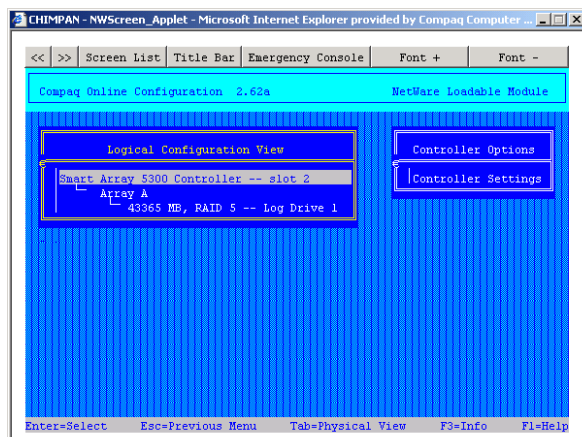

Figure 7-22: Main manual configuration screen
- If logical drives are present on the controller, the manual configuration screen (Figure 7-22) is displayed.